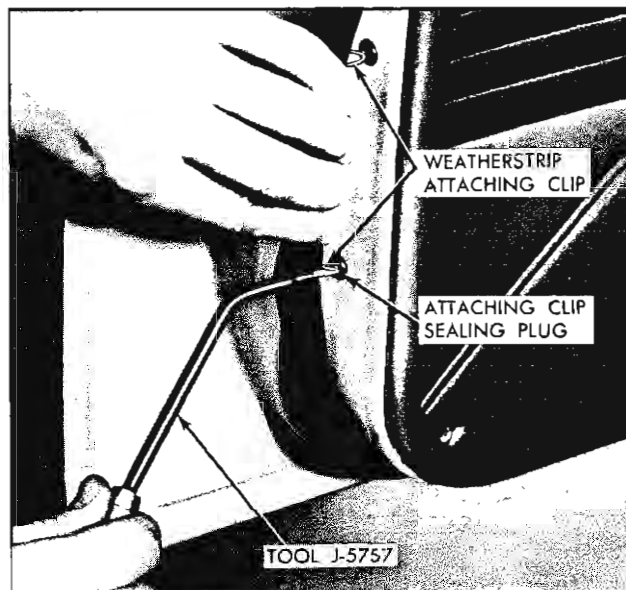

Fig. 37—Usage of Tool J-5757
4. Insert tip of tool J-5757, or any other suitable tool, at retaining clip locations and carefully snap clips from sealing plugs (fig. 37).
4. Beginning at either front or rear section of door, install snap fasteners. Install weatherstrip attaching clips into their respective sealing plugs by placing notched end of tool J-5757 into loop of wire clip and pushing clip into sealing plug (fig. 37).
1. Insert tip of mechanically retained weatherstrip inserting tool J-5757, or other suitable tool, at clip locations and carefully snap clips from sealing plugs (fig. 37).
5. Install weatherstrip into door upper frame by inserting tool J-5757 into loop of wire clips and pushing clips into their respective piercings (fig. 37).
7. Install weatherstrip into attaching clip sealing plugs by installing tool J-5757 into loop of wire clips and pushing clips into their respective plugs (fig. 37).